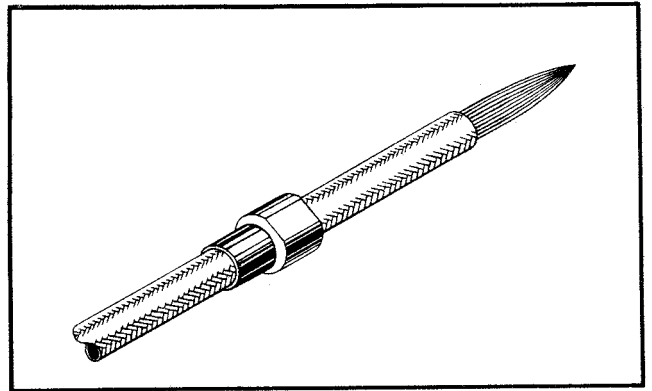

Figure 61
(4) Taper end of braid (as shown), purpose of this is to slip splicer over braid and under vinyl jacket. See Figure 61.